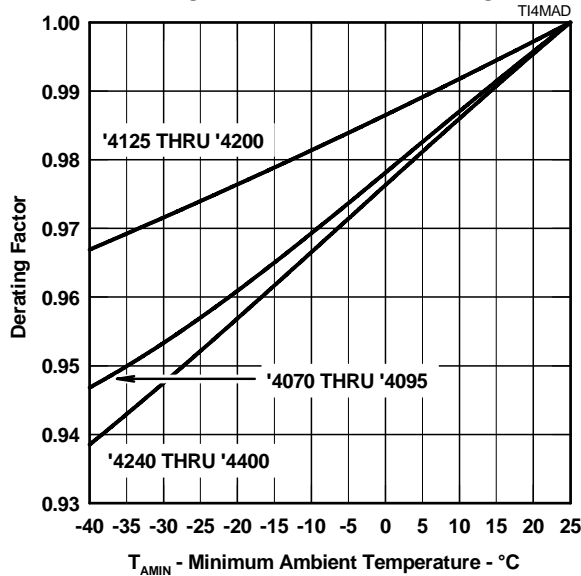

Figure 10.
- NOTES: 1. See Applications Information and Figure 10 for voltage values at lower temperatures.
Figure 10 allows the calculation of the protector  $V_{DRM}$  value at temperatures below 25 °C. The calculated value should not be less than the maximum normal system voltages. The TISP4265M3BJ, with a  $V_{DRM}$  of 200 V, can be used for the protection of ring generators producing 100 V rms of ring on a battery voltage of -58 V (Th2 and Th3 in Figure 17). The peak ring voltage will be  $58 + 1.414 \times 100 = 199.4$  V. However, this is the open circuit voltage and the connection of the line and its equipment will reduce the peak voltage. In the extreme case of an unconnected line, clipping the peak voltage to 190 V should not activate the ring trip. This level of clipping would occur at the temperature when the  $V_{DRM}$  has reduced to  $190/200 = 0.95$  of its 25 °C value. Figure 10 shows that this condition will occur at an ambient temperature of -28 °C. In this example, the TISP4265M3BJ will allow normal equipment operation provided that the minimum expected ambient temperature does not fall below -28 °C.